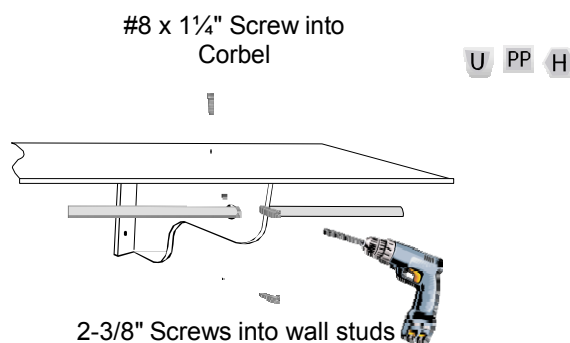

Fig. 5
15. Long pole spans should extend no further than 36" without additional support. Fasten the cleat to the corbel using two (2) HILO screws (included with corbel).
16. Fasten corbels to wall studs using two (2) 4.5x60mm (2-3/8") screws, plus one #8 x 1/4" screw through the shelf into the corbel from above. (See Fig. 5.)